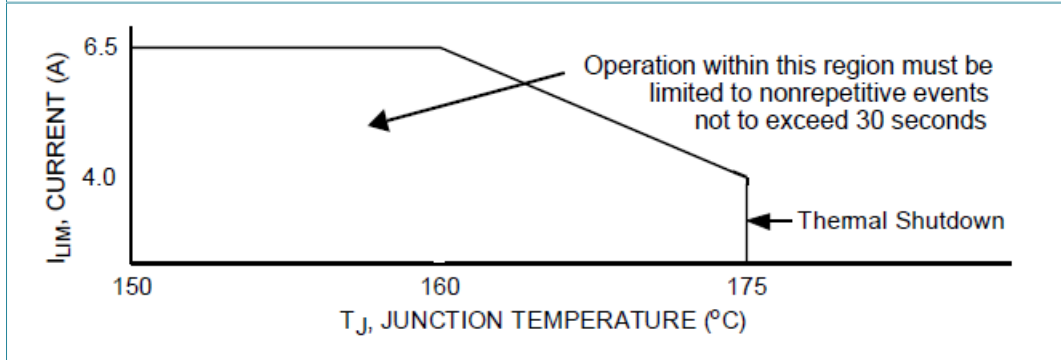
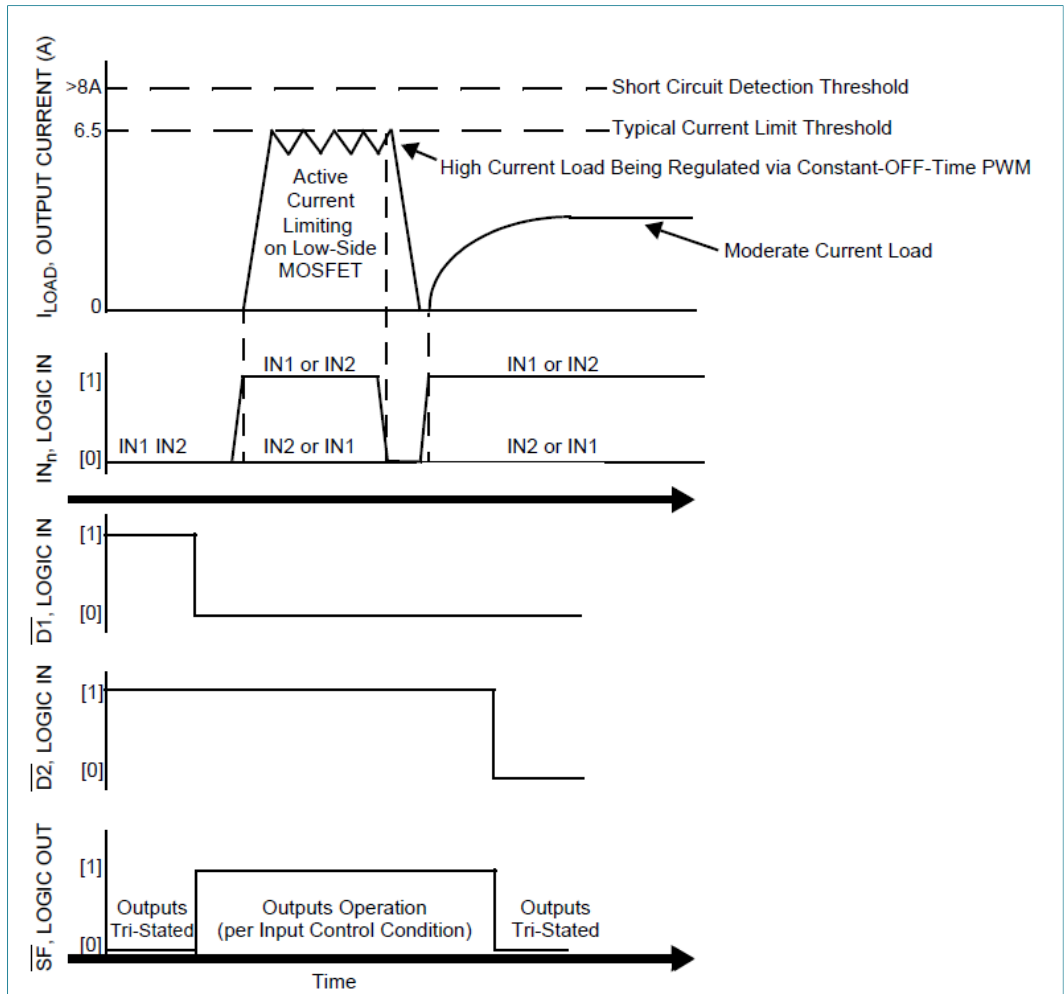
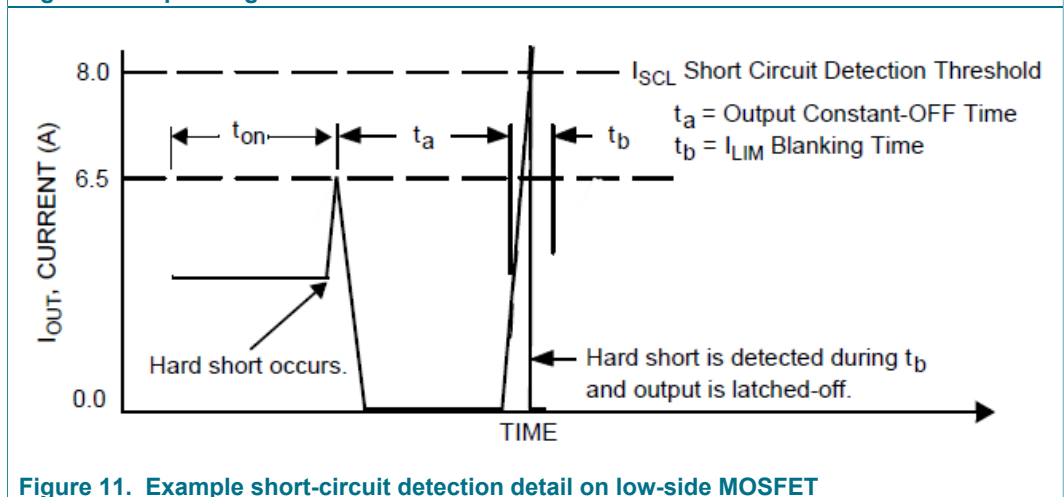

Figure 9. Active current limiting versus temperature (typical)
Figure 10. Operating states
Figure 11. Example short-circuit detection detail on low-side MOSFET
- [5] Load currents ramping up to the current regulation threshold become limited at the I_{LIM} value. The short-circuit current possess a di/dt that ramps up to the I_{SCH} or I_{SCL} threshold during the I_{LIM} blanking time, registering as a short-circuit event detection and causing the shutdown circuitry to force the output into an immediate 3-state latch OFF. See Figure 10 and Figure 11. Operation in current limit mode may cause junction temperatures to rise. Junction temperatures above ~160 °C causes the output current limit threshold to progressively foldback, or decrease with temperature, until ~175 °C is reached, after which the T_{LIM} thermal latch OFF occurs. Permissible operation within this foldback region is limited to nonrepetitive transient events of duration not to exceed 30 seconds. See Figure 9.
A disable timer (time t_b) used to detect currents that are higher than current limit is activated at each output activation to facilitate hard short detection (see Figure 11).
The maximum current flow under normal operating conditions is internally limited to I_{LIM} (5.2 A to 7.8 A). When the maximum current value is reached, the output stages are 3-stated for a fixed time (t_a) of 20 μ s typical. Depending on the time constant associated with the load characteristics, the current decreases during the 3-state duration until the next output ON cycle occurs (see Figure 11 and Figure 14).
The current limiting threshold value is dependent upon the device junction temperature. When $-40\text{ °C} \leq T_J \leq 160\text{ °C}$, I_{LIM} is between 5.2 A to 7.8 A. When T_J exceeds 160 °C, the I_{LIM} current decreases linearly down to 4.0 A typical at 175 °C. Above 175 °C the device overtemperature circuit detects T_{LIM} and overtemperature shutdown occurs (see Figure 9). This feature allows the device to remain operational for a longer time but at a regressing output performance level at junction temperatures above 160 °C.